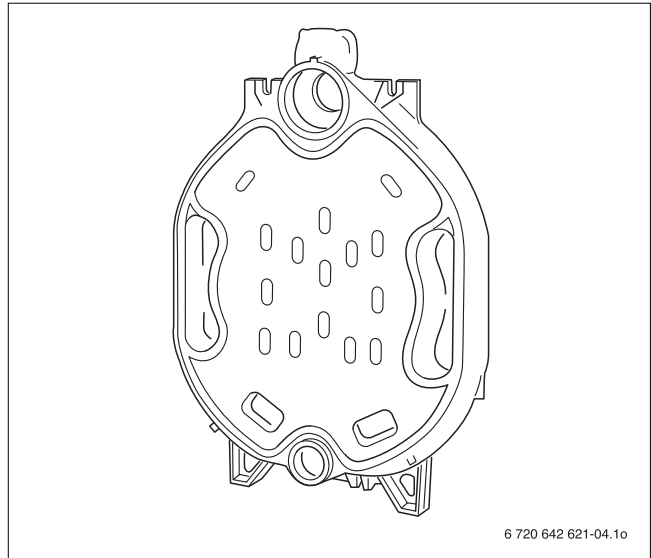

Fig. 8 Rear section
- ▶ Put the rear section in place and secure during assembly taking measures to prevent tipping over (→ Fig 8 and separate instructions for installation).